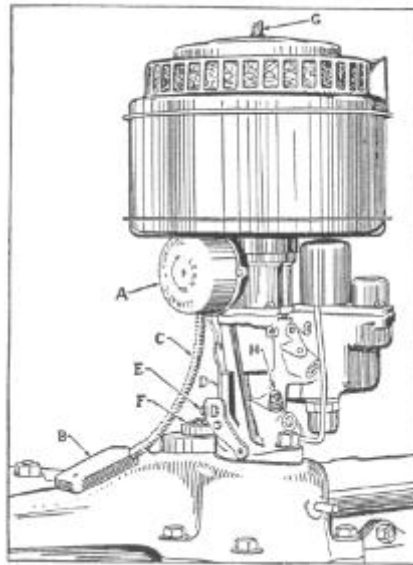

Figure 5
The choke valve, the mechanism for which is contained in the insulated housing (A), Figure 5, is fully closed when the engine is cold at average air temperatures (75 ° Fahrenheit). Hot air drawn off the exhaust manifold through the stove (B) and tube (C) enters the control housing, giving accurate positioning of the choke for all starting and operating conditions.